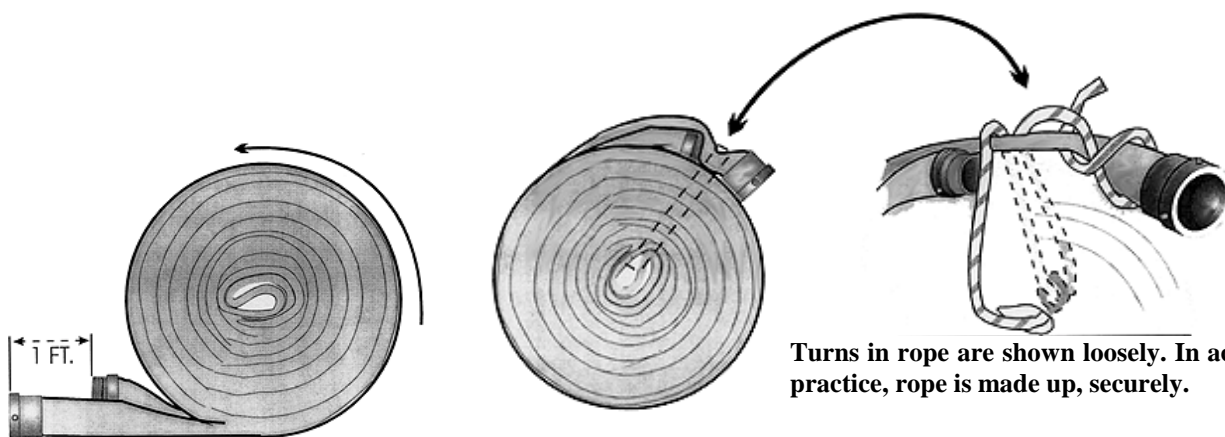

Fig. 7-9
- F. Secure the rolled up length with a short piece of rope (see Figs. 7-9 and 7-10)